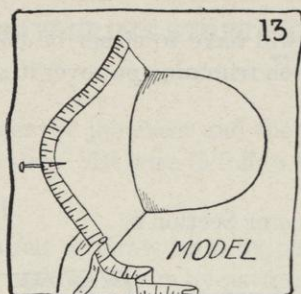
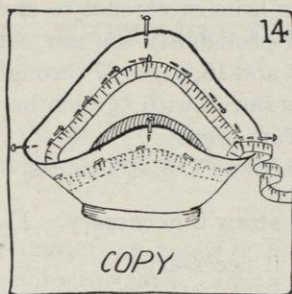

FIG. 13.
FIG. 14.
- d. Measure the edge of the crinoline brim (see Figure 13) and compare it to the edge of the felt brim (see Figure 14). Change the edge line if necessary. You may have to shrink the edge (see Figure 1, A-B) or stretch the edge (see Figure 3, page 44).